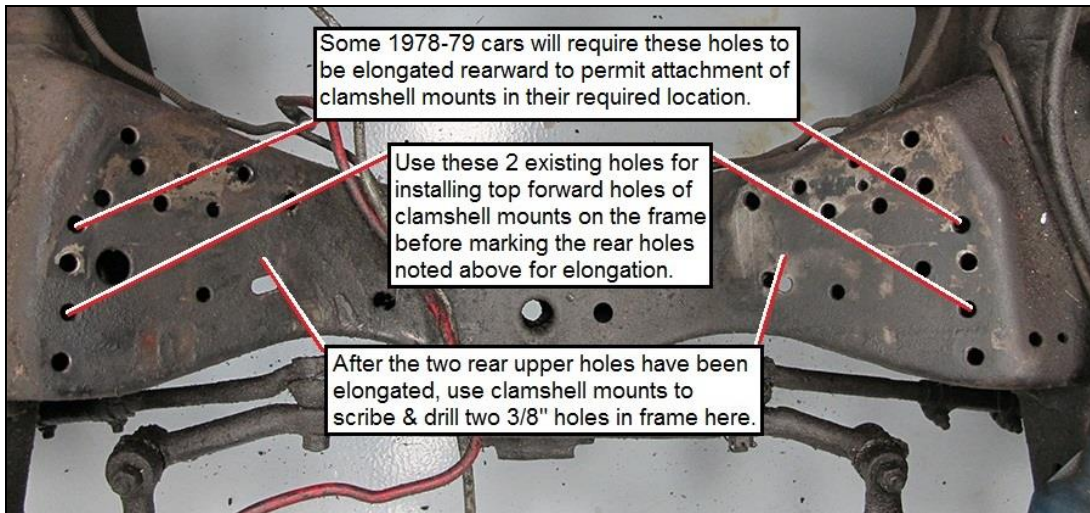

Figure 1
1. Install a new set of clamshell engine mounts (2292 Anchor or Westar brand mounts or equivalent) onto the vehicle chassis as shown in **Figures 1, 2 and 3** below.